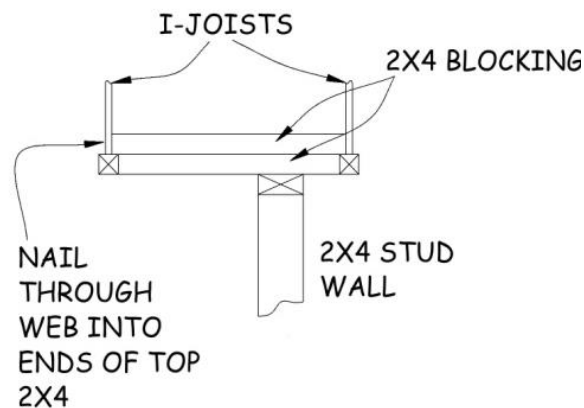

Figure 6-6. Blocking for Attaching Basement Walls Between I-joists.
13. Walls parallel to the I-joists require blocking at the top. Nail 2x4s between the bottom I-joist flanges at 24" O.C., flush with the bottom of the I-joist flange (see Figure 6-6).